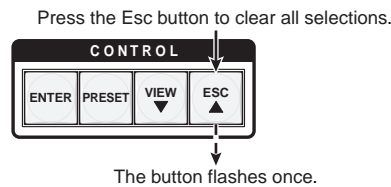

Figure 3-5 — Clear all selections
1. Press and release the Esc button (figure 3-5).